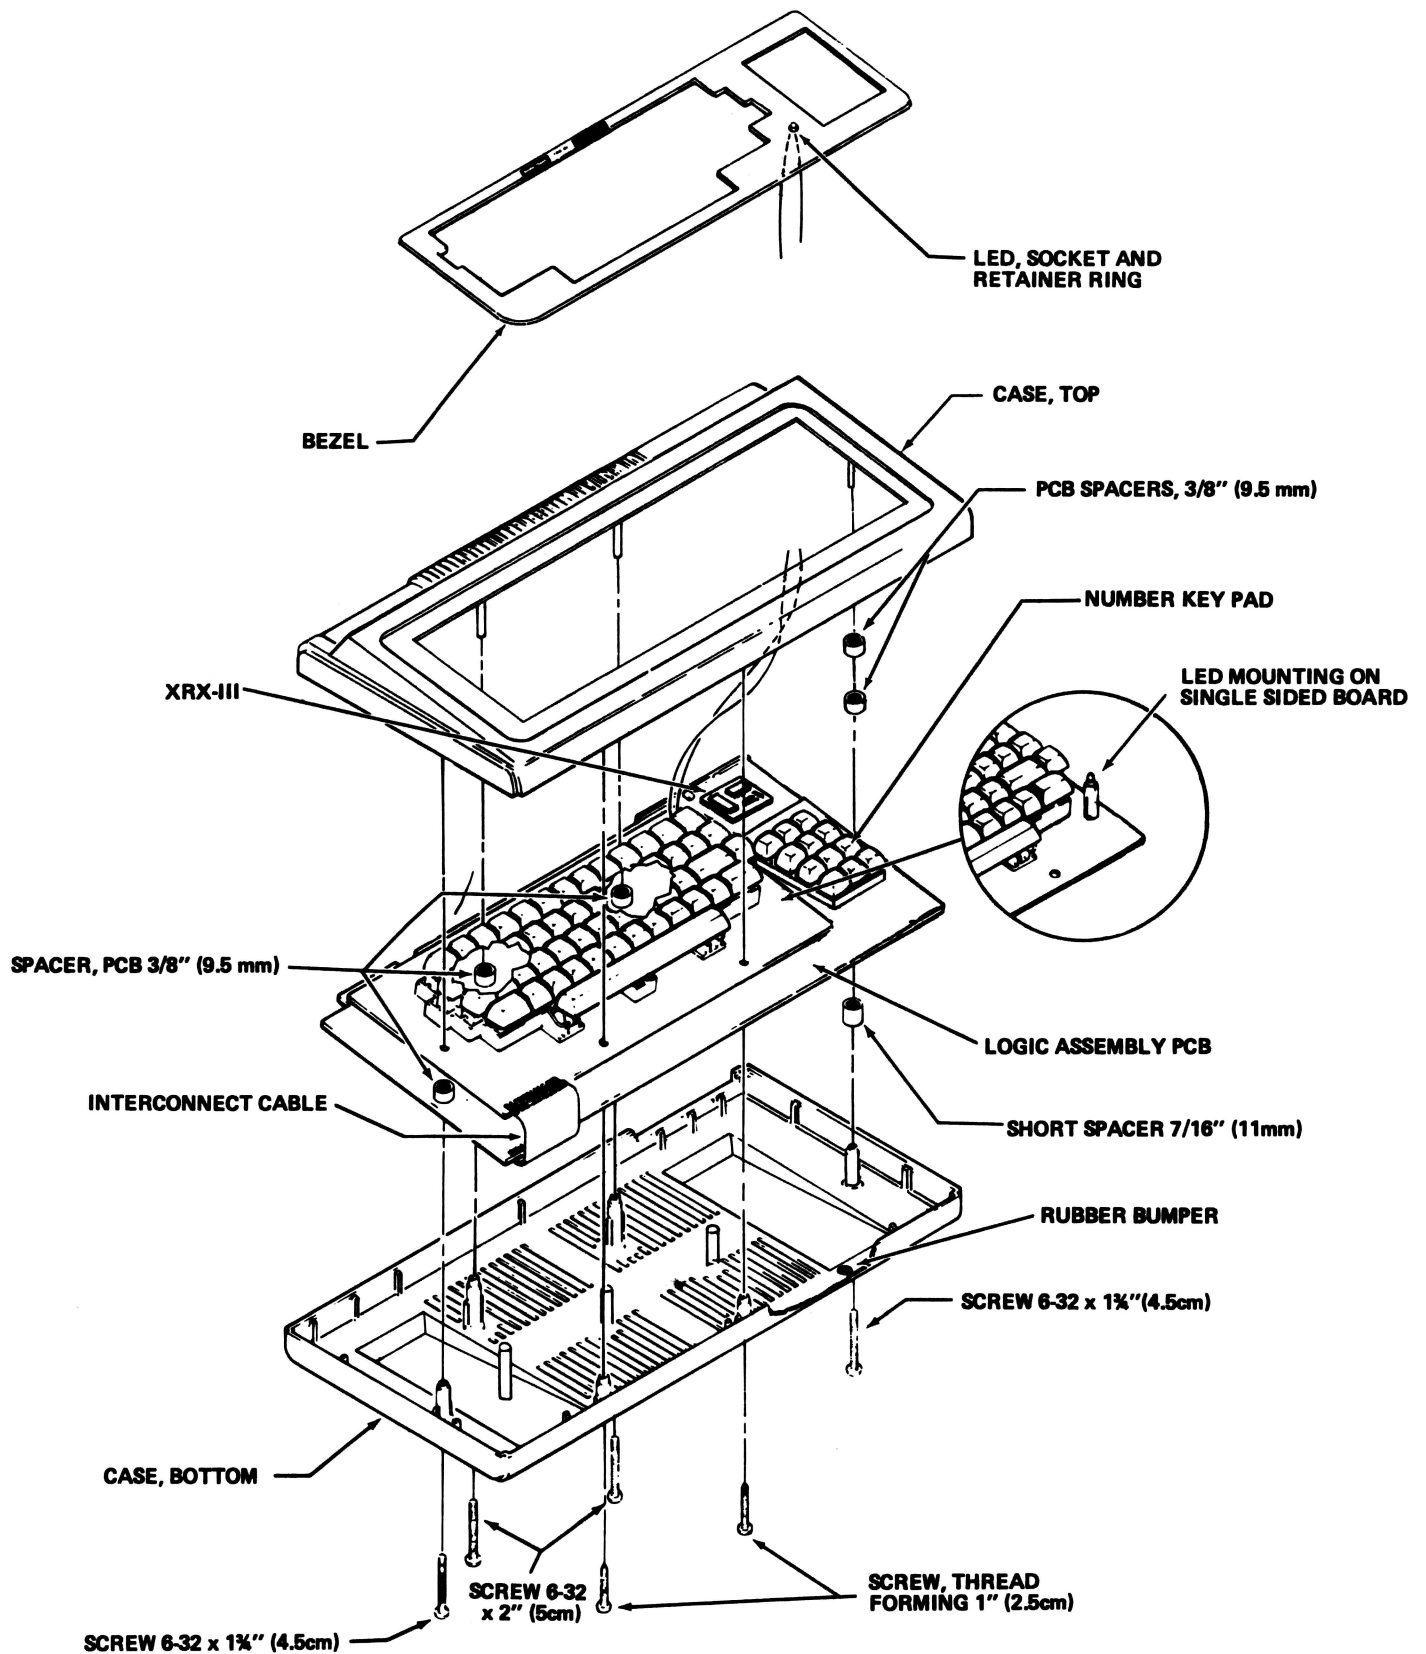

FIGURE 1. DISASSEMBLY
LED mounting differences (refer to Figure 1):
The second mounting technique has the LED soldered directly to a single-sided Keyboard PCB. No retainer ring is used because the LED is not held by the top of the case. The top half of the case simply fits over the Keyboard and the LED (see the Inset, Figure 1).
5. Notice the five PCB spacers — 3/8" (9.5 mm) long — between the Keyboard PCB and the Logic PCB. Make a mental note (refer to Figure 1) of which plastic bosses the spacers are on, then remove them.